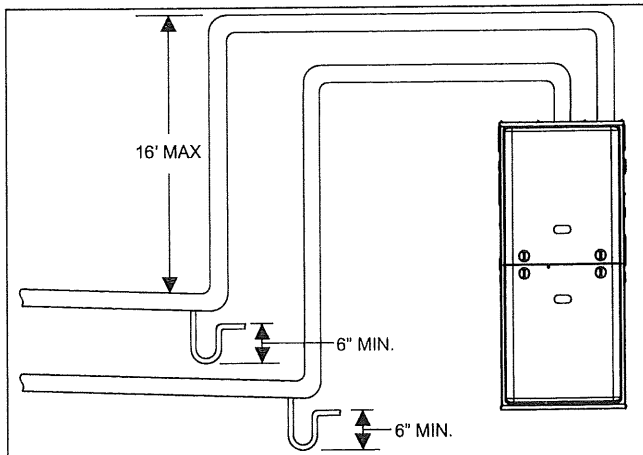

FIGURE 36: Downward Venting
1. **OUTDOOR COMBUSTION AIR:** This is a direct vent configuration where the combustion air is supplied through a PVC or ABS pipe that is connected to the PVC coupling attached to the furnace and is terminated in the same atmospheric zone as the vent. This type of installation is approved on all models. Refer to Figure 36.
This installation requires combustion air to be brought in from outdoors. This requires a properly sized pipe (Shown in Figure 36) that will bring air in from the outdoors to the furnace combustion air intake collar on the burner box. The second pipe (Shown in Figure 36) is the furnace vent pipe.